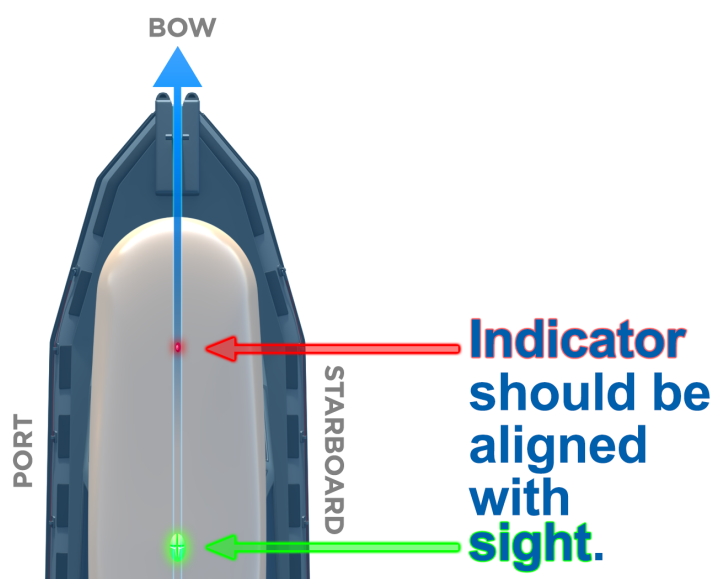

Figure 3: GNSS Compass alignment
2. Ensure that the GNSS Compass is aligned with the vessel such that the indicator on top is aligned pointing forwards on the vessel. The sight can be used to assist alignment by eye. See Figure 3: GNSS Compass alignment.